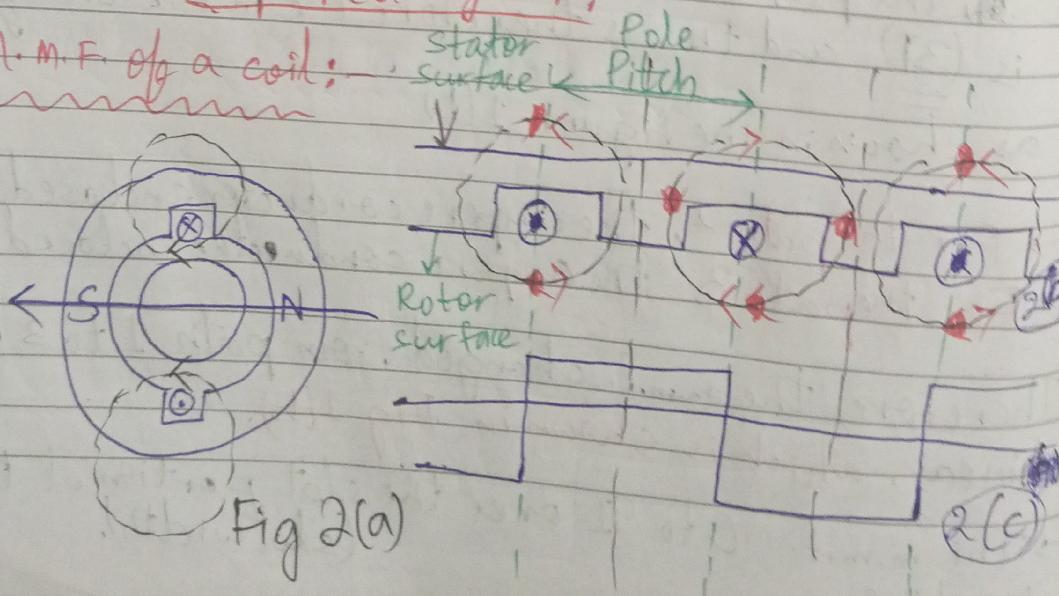

Fig 2(a)
- Consider 1 full-pitch coil on the stator on a 2-pole uniform air-gap machine as shown Fig 2(a).
- The mag. flux setup by this coil current is shown in the dotted line of Fig 2(a).
The developed view of Fig 2(a) is shown in the Fig 2(b). In order to determine the coil mmf the following assumptions are to be made:-
→ Acc. to Fig 2(b), the m.m.f and the flux radial upward from rotor to stator is assumed positive while that from stator to rotor is assumed negative.